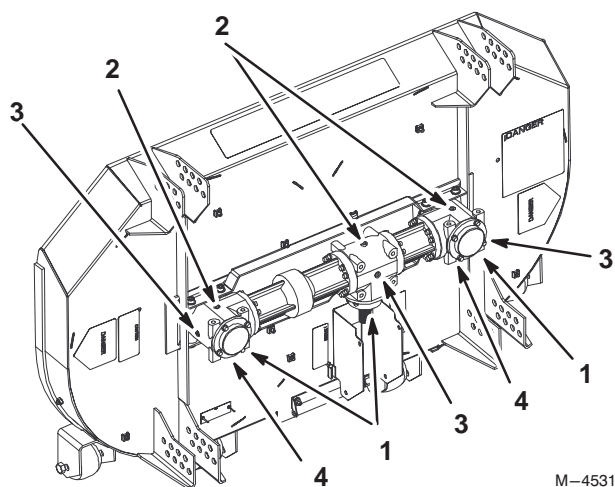

Figure 6
5. With mower raised, remove plug on the bottom side of the gearbox. Let fluid fully drain into a pan. (Fig. 6).
6. Reinstall the bottom plug into the gearbox using pipe sealant on threads (Fig. 6).
7. Remove the top plug to fill gearbox (Fig. 6).
9. Reinstall the top plug into the gearbox using pipe sealant (Fig. 6).
3. Remove plug on the side of the gearbox. The fluid level must be up to side hole in gearbox (Fig. 6).
4. If needed, fill fluid into top hole until it runs out the side hole in gearbox. Gearbox is full when fluid runs out the side hole (Fig. 6). For correct fluid; refer to Gearbox Fluid, on page 3.
5. Reinstall the top and side plugs into gearbox using pipe sealant on threads (Fig. 6).